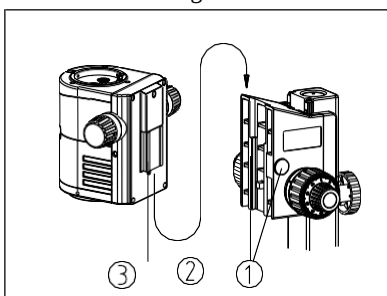

Fig. 4
1) Remove the decorative cover① of the focus bracket group, and loosen the M4 inner hexagon screw with a M4 inner hexagon spanner. (See Fig. 4)
2) Match the dovetail interface③ of the microscope body with the dovetail groove② of the focus bracket group, and insert it from top to bottom as the direction shown in the figure.
3) Tighten the M4 inner hexagon screw on the focus bracket group with a M4 inner hexagon spanner, then put the decorative cover① back.